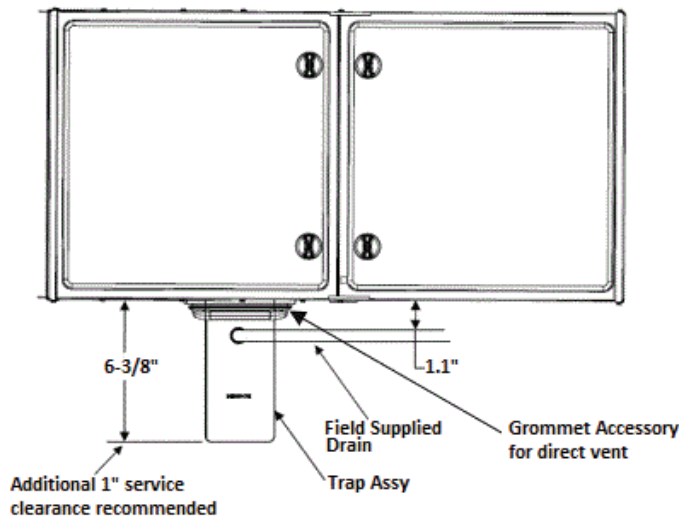

Fig. 21 – Trap Clearance in Horizontal Application
3. Allow for 6-3/8" (162 mm) of clearance underneath the furnace for the condensate trap and drain line. It is recommended to leave an additional 1" clearance under the trap for service, see Fig 21.